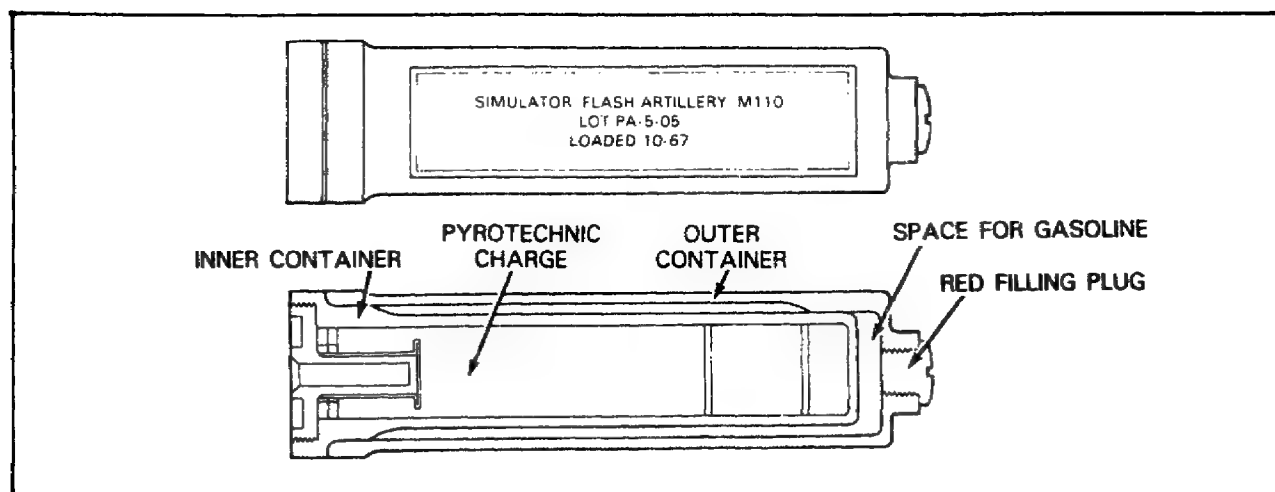

Figure 109. Simulator, Flash, Artillery, M110.
*Simulator, Flash, Artillery, M110.* In training, the simulator, flash, artillery, M110 (Figure 109) is used to simulate battle conditions. In forward combat areas, it is used as a decoy to make a flash similar to that of the 155mm howitzer projectile, HE. This simulator consists of an inner and an outer container. The inner container is filled with pyrotechnic compound. The outer container has a filler plug for filling with gasoline. The simulator is made of black plastic. It has a white label and black markings.